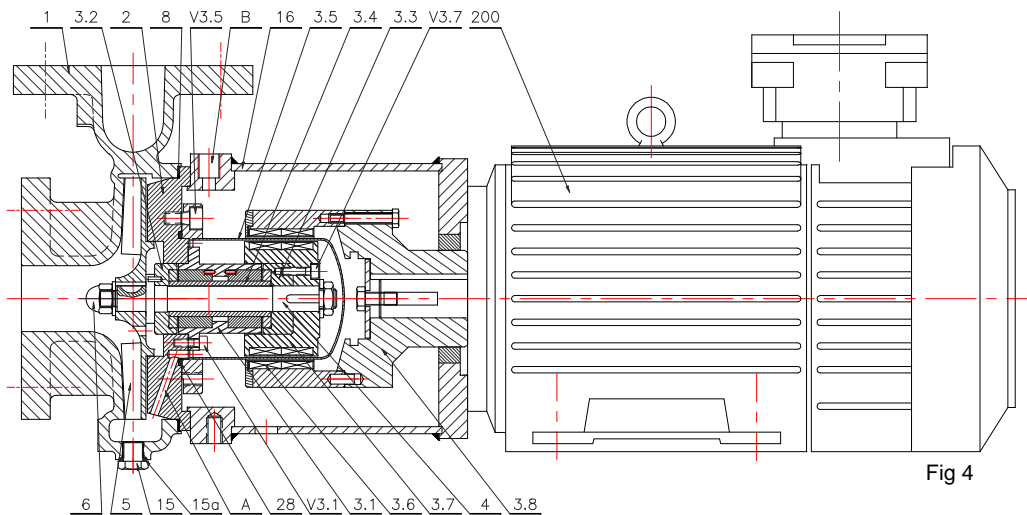

Fig 4
- 106-209-210-216-312-316-414-516-522-614-619-827 pumps can be mounted in single cell only fig.4